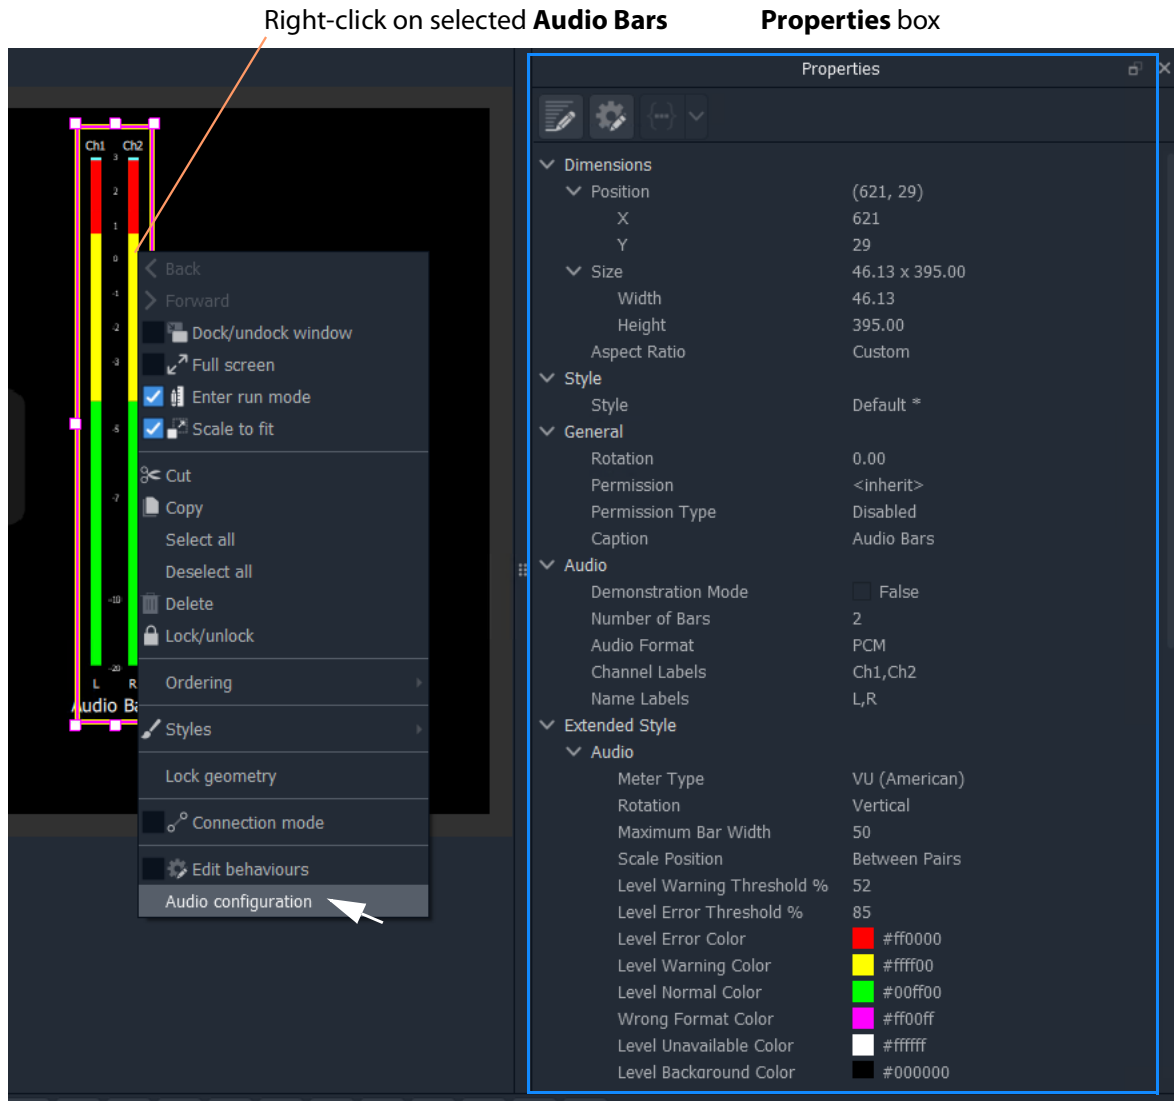

Fig. 16-2: Right-Click on Audio Bars Widget
The **Audio Bars** widget may be set up by selecting the widget in the **Tile Editor** and modifying properties in the **Properties** box. See Figure 16-2.
- 2 Right-click on the widget and select 'Audio Configuration' in the pop-up menu. (See Figure 16-2.)